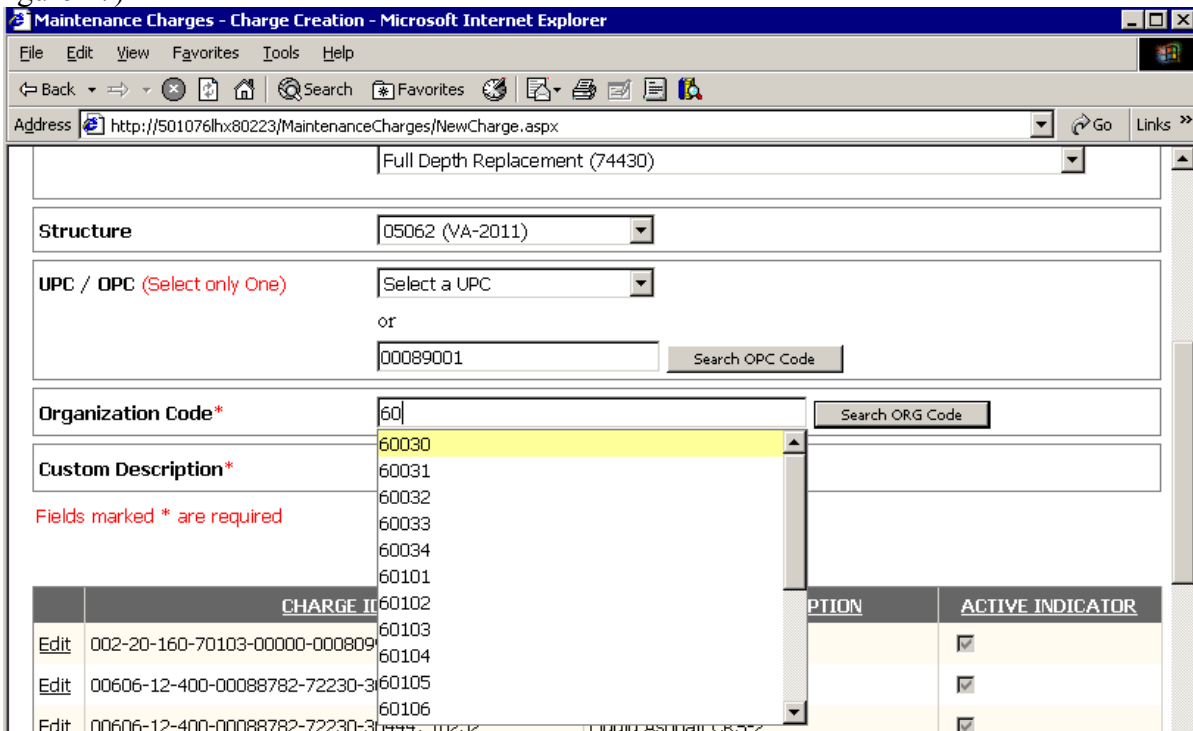

Figure 27
Step 8: Select the ORG Code from the ORG Code Dropdown list. As like before, only the first 20 that match your entry will appear. You can use Search ORG Code to get more results. (Figure 27)